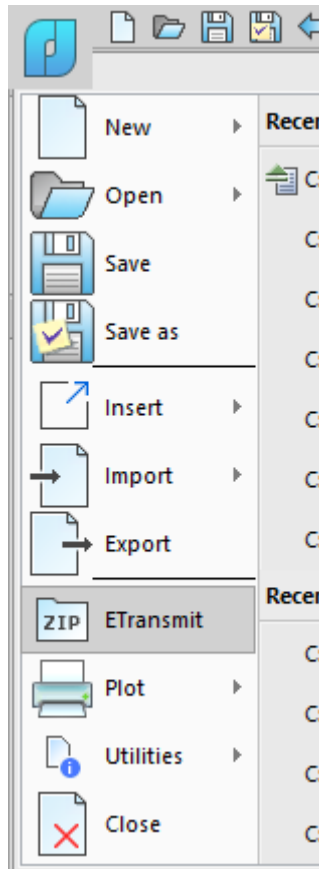

Fig. 45. The **ETransmit** command
5.2. Click on the **nanoCAD** button – **eTransmit** (fig. 45):